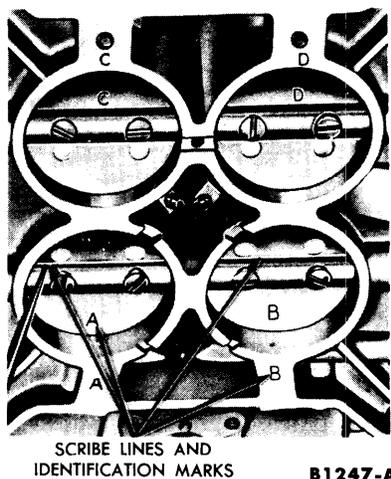

FIG. 12—Throttle Plate Removal
15. If it is necessary to remove the throttle plate, lightly scribe the primary and secondary throttle plates along the throttle shafts and mark each plate and its corresponding bore with a number or letter for proper installation (Fig. 12).